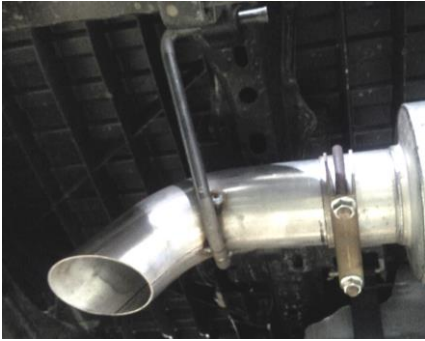

Figure 3
5. Install the **Tail Pipe** by inserting it into the **Muffler**, and inserting the hangers into the factory isolators. Do not fully tighten the **3" Clamp** yet. **Refer to Figure 3.**